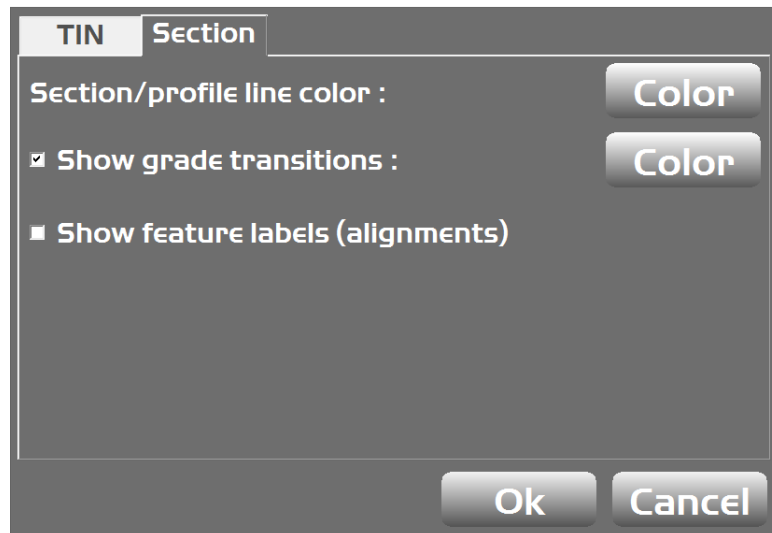

Figure 102: Select a Color for the Section Parameters
6. Tap the **Color** button next to the desired parameter(s). The **Color Selection** screen appears (Figure 102).